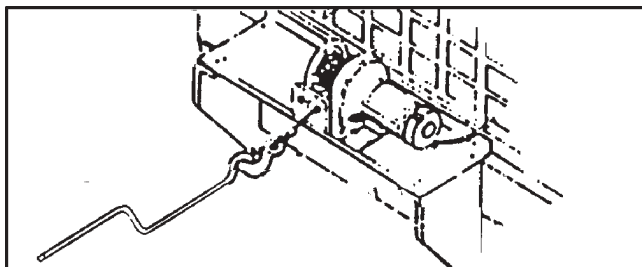

Figure 11-7 Using the Handsaver Bar
7. Keep clear of winch wire rope and hook when operating winch. Never put your fingers through the hook when reeling in the last few feet of line. If your finger should become trapped in the hook, you could lose your finger. Use the HANDSAVER BAR (Figure 11-7) to guide the hook within the last few feet. Never guide a wire rope onto the drum with your hand.